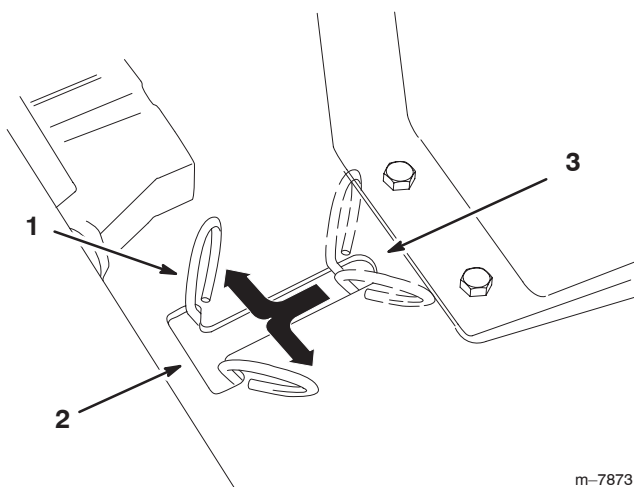

Figure 14
3. Raise the seat to access the bypass levers (Fig. 14).
4. Move the two bypass levers forward and then outward to lock them in place as shown in Figure 14.
Move the bypass levers to the inside and pull them rearward, to the end the slot (Fig. 14).